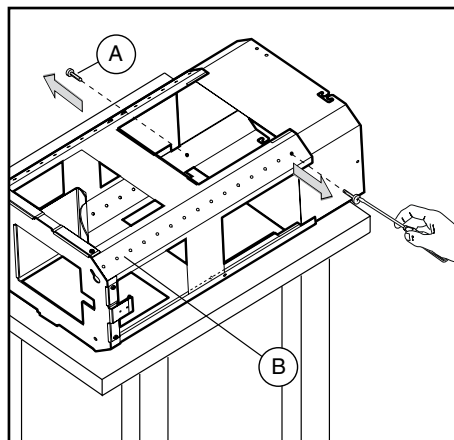

Fig.1
Remove the structure from the packaging and remove the 2 screws **A** to separate the upper part from the lower part (**Fig.1**).
**Fig.1:** Put together the two parts of the air diverter as shown in picture **no 3.1**. It may be necessary to cut the diverter to fit the width of the chimney as shown in picture **3.2**. A sharp blade or Hacksaw is recommended to trim the plastic.